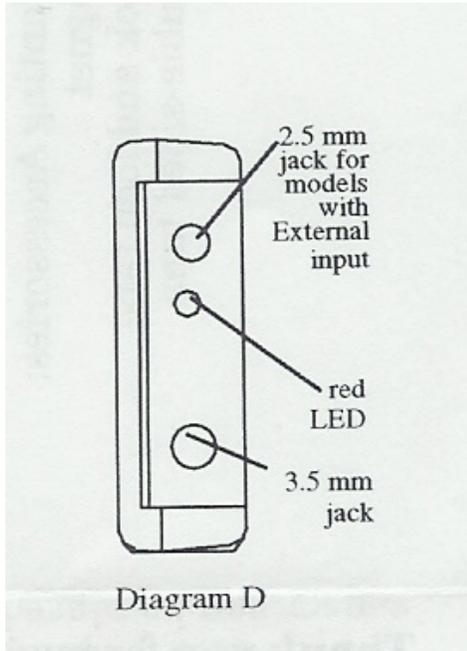

Figure 1. Side view of probe and serial cable jacks and LED light
3.1.1 Connect the interface cable to the computer serial comm port (Figure 1). Then connect the other end of the cable to the data jack on the data logger.
3.1.5 When it is ready for use, the LED light on the logger will blink faintly (Figure 1).
Place the logger in the ice chest when leaving the West Sacramento warehouse. When using wet ice, keep the logger dry by using either a plastic bag or a mason jar. Place the logger in a plastic bag and tape it to the inside top of the ice chest or close the logger in a mason jar and put it along side the samples under the ice. If the logger becomes wet, open the plastic case, remove the battery and let the logger dry. When using dry ice, do not put the logger in the EPS. Choose a logger with a probe jack (Figure 1). Attach the probe (be sure to activate Channel 2 when launching) and tape the logger in a bag to the outside of the EPS box. Place the probe end in the EPS box next to the samples.